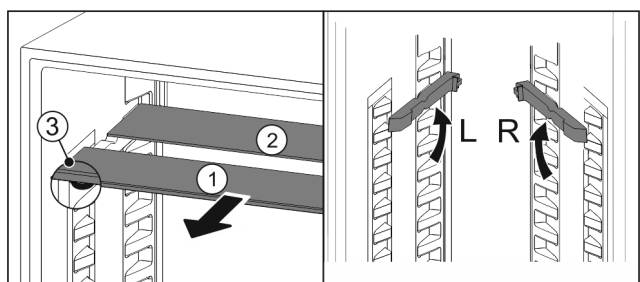

Fig. 110
- ▶ Pull the glass panels out Fig. 110 (1) from the front, one at a time.
- ▷ The glass panel *Fig. 110 (1)* with the trim strip is at the front.
- ▷ The stops *Fig. 110 (3)* point downward.